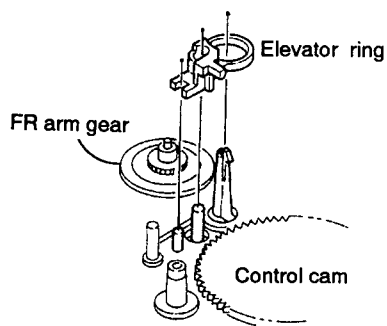

Fig. 5-47
4. Dismount the elevator ring (See Fig. 5-47).
5. Attach the elevator ring (See Fig. 5-47).